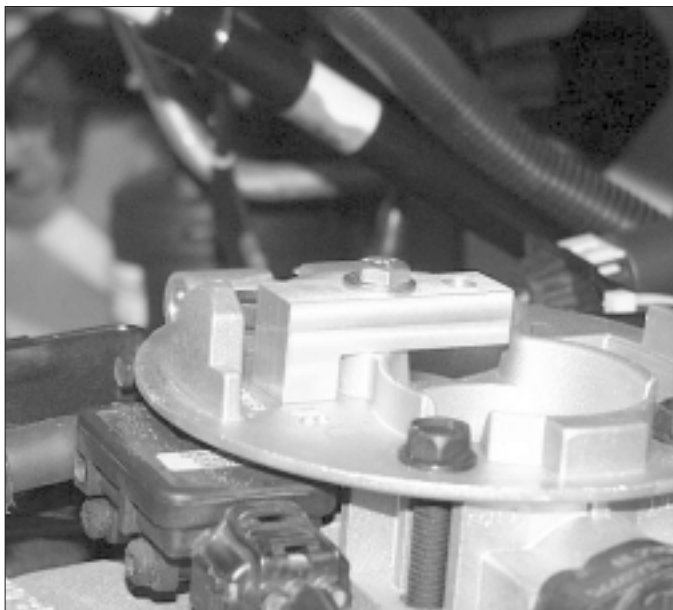

Fig. 5-d
- B. Install the bonnet adapter with the fasteners provided. Using lock tight on this bolt is recommended. (See Fig. 5-d.)